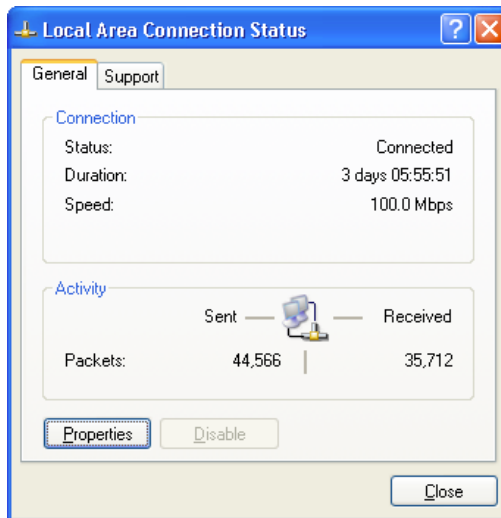

Figure 4. The Local Area Connection Status Dialog
2. In the panel labeled **LAN or High-Speed Internet**, double-click the **Local Area Connection** icon. The **Local Area Connection Status** dialog box appears (Figure 4).